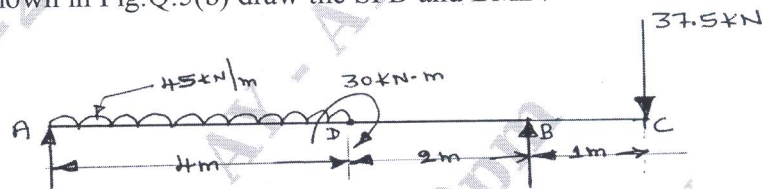

Fig.Q.5(b)
- b. For the beam shown in Fig.Q.5(b) draw the SFD and BMD. (04 Marks)